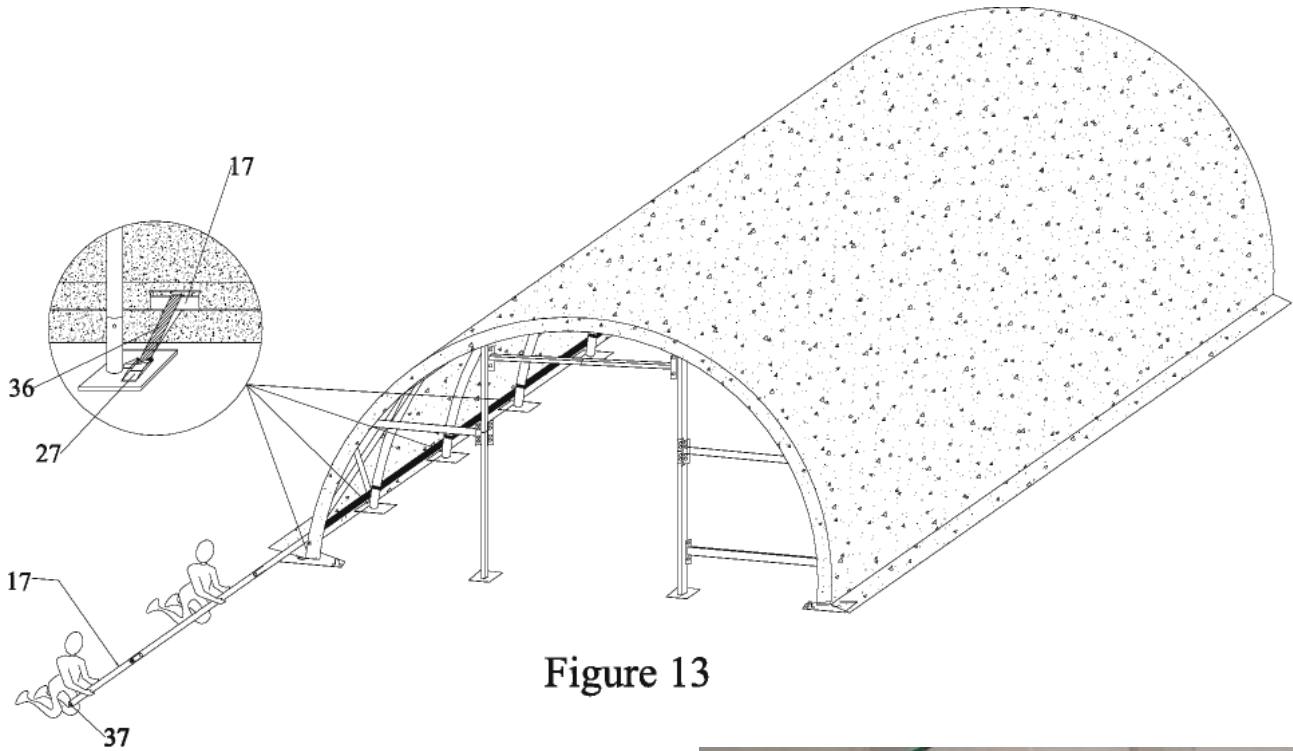

Figure 13
Center Main Cover over Frame assembly both side-to-side and front to back. Next insert Tensioning Tube Plastic Caps (37) into the ends of the Tensioning Tubes (17) as shown in Figure 13. Insert the Tensioning Tubes into the pockets in inside edge of Main Cover on each side. Align one side of Main Cover evenly front to back. Put Band for Tie Down Ratchets (36) over Tensioning Tubes at each Base Flange along one side. Bands do not attach to Tensioning Tubes, but loop around and secure at both ends on ratchet.